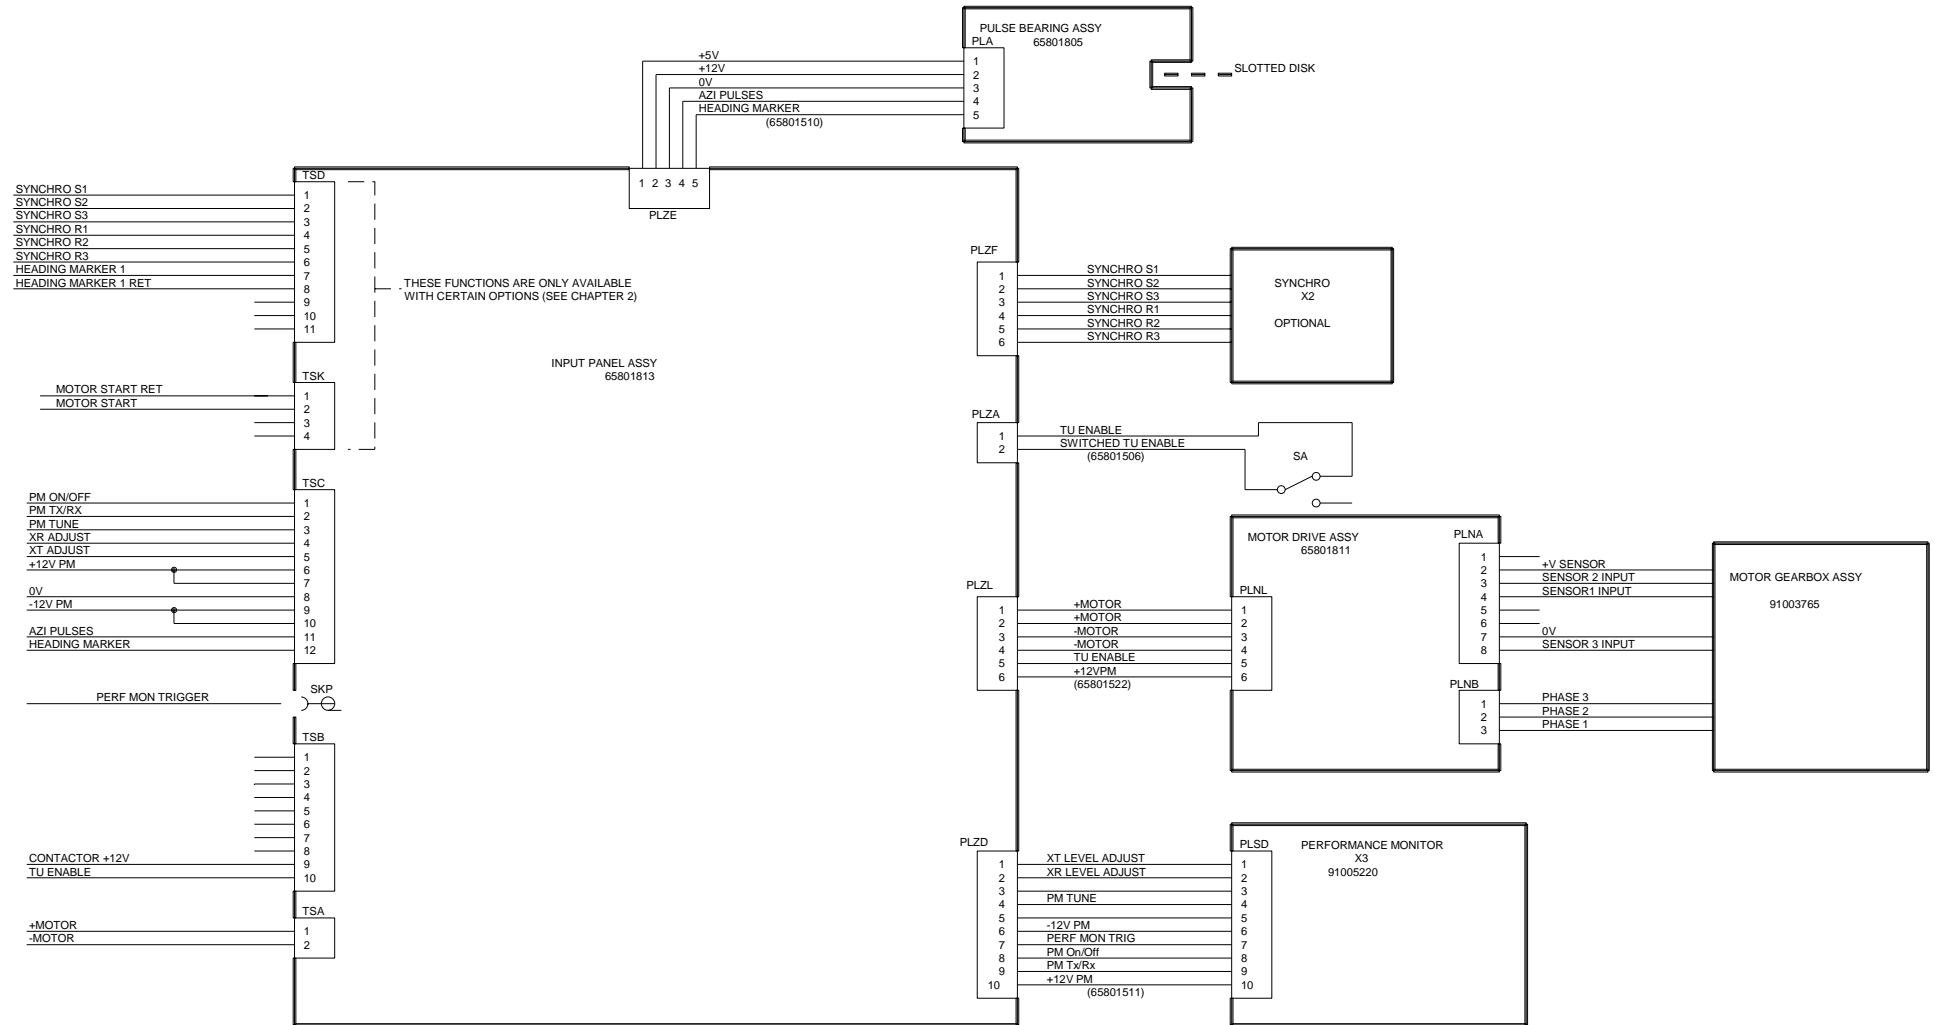

Figure 2.37 X-Band Turning Unit (Bulkhead) Schematic
- Figure 2.37 X-Band Turning Unit (Bulkhead) Schematic.
A3 page 2-89/90 Figure 2.37, discard this A4 sheet.